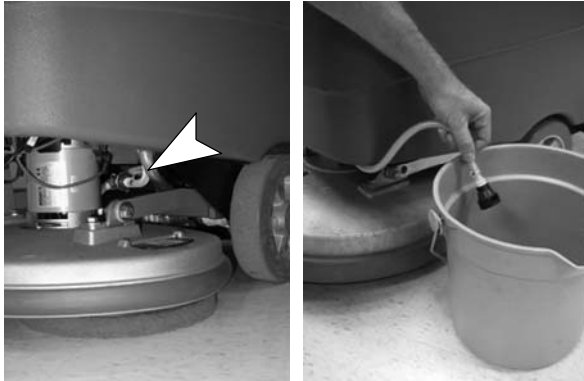

FIG. 75
3. Disconnect the black connector fitting at the scrub head and place the hose into a bucket (Figure 75). To access the connector fitting, you may have to remove the front cover from the machine.